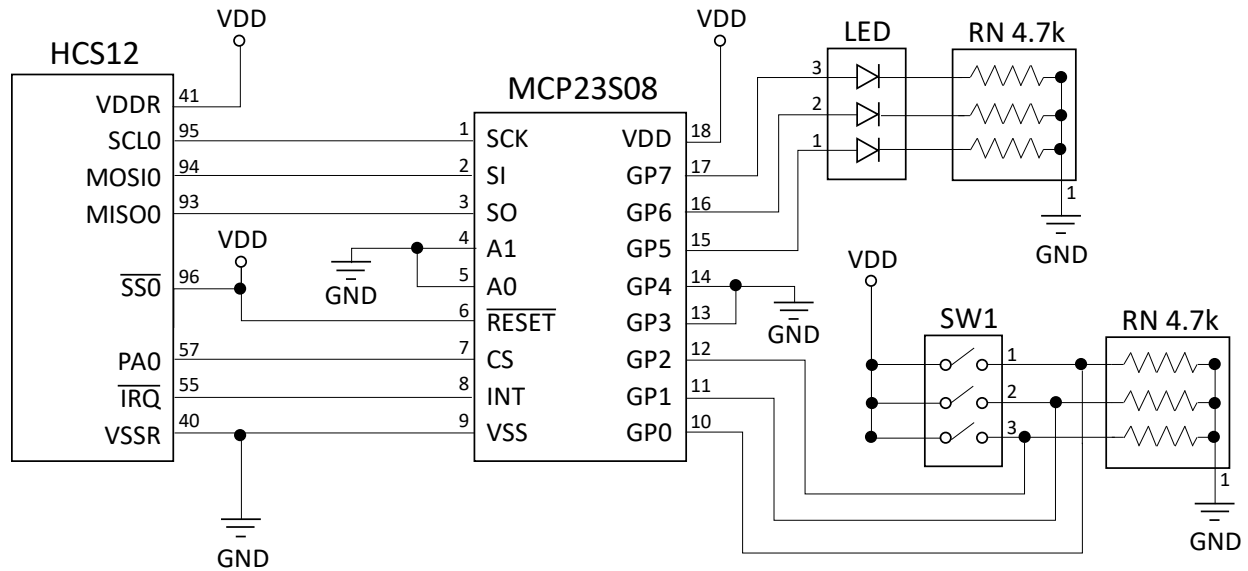

Figure 3. I/O Expander Experiment Setup
- a) Assemble the circuit as shown in **Figure 3**.